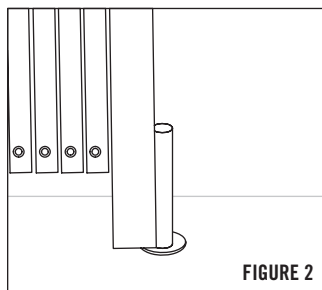

FIGURE 2
- 2) Have a helper extend the gate and stand it upright where it will be mounted. Drill 3/4" diameter x 3" deep hole, 1-1/4" from wall into the floor for gate pin to set into. Place a bearing washer over floor hole and set bottom gate pin into floor mount hole. (See Figure 2)